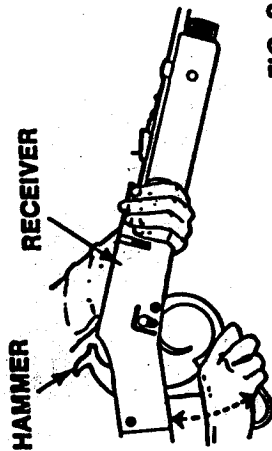

FIG. 8
3. When shooting BBs, hold the gun by the Forearm with one hand, with barrel pointing slightly down. With your other hand, push down the Cocking Lever *easily* till it stops. Pull it back *easily* (FIG. 8).